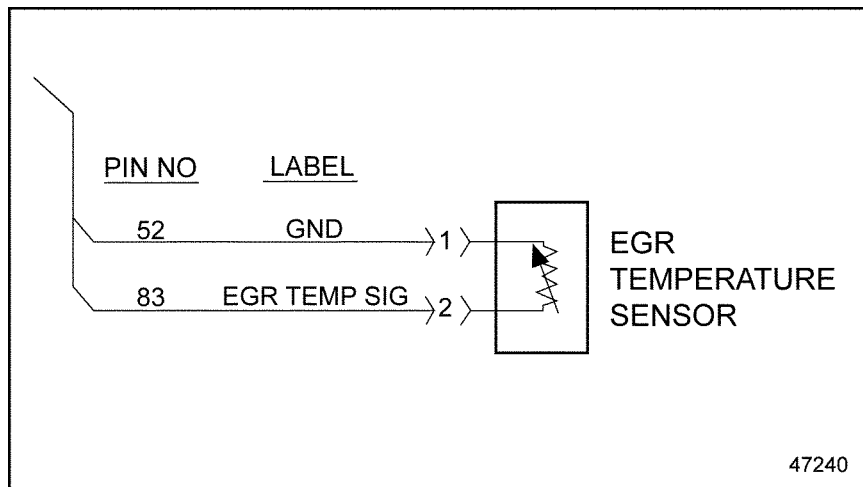

Figure 40-2 EGR Temperature Sensor
- [a] If the resistance is less than 5 Ω , repair the short between wires 52 and 83 of the 120-pin MCM connector. See Figure 40-2. Refer to section 40.2.1.1.